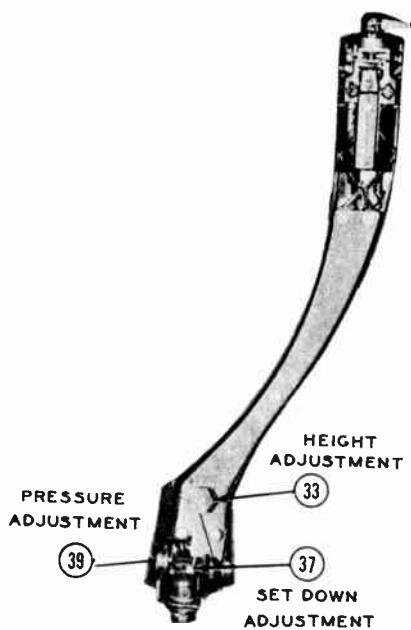

Figure C1.
ADJUSTMENTS (Figures C1, C2, C3, C4)
SERVICE HINTS (Figures C1, C2, C3, C4)
18. **Changer Will Not Reject When Record is Finished:** (a) needle pressure too light, loosen pressure adjustment screw 39, figure C1 and adjust pressure adjustment lever 38; (b) AC wire hitting on cam wheel 94, figure 2; (c) defective rubber tire on cam wheel.